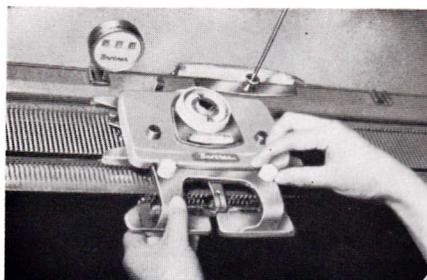

Fig. 15
- a. Take out the sinker plate complete from the parts box. Loosen the thumb screws of carriage, push in the sinkerplate as they will go and fasten the thumb screws securely. (See Fig. 15)